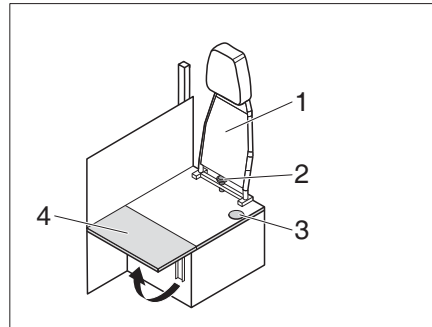

Fig. 188 Conversion drive - living mode
- Unscrew the star screw (Fig. 188,2) and remove the backrest (Fig. 188,1) towards the top.
- Fold up the bench seat extension (Fig. 188,4).
- ▷ When converting from living to travel mode proceed in the reverse order. Make sure that the safety belt is lead through the opening (Fig. 188,3).